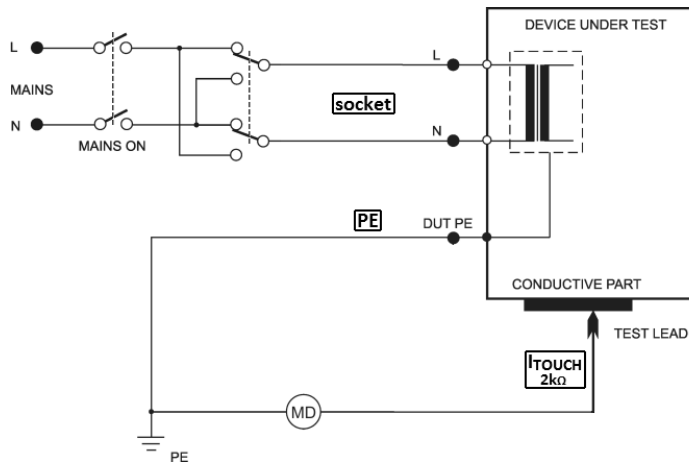

Figure 21: IdirTouch measurement
**IdirTouch measurement:** Only the component of the current that leakages from the ungrounded parts is measured (see Figure 21).